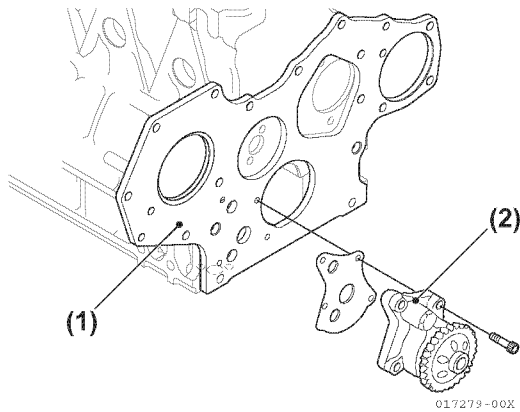

Figure 5-47
- 41. Remove the lubricating oil pump from the gear case flange (Figure 5-47).